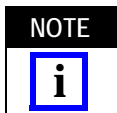

Figure 1
Crimping Heads 1-45216-0 and 1-45219-2 are designed to crimp closed-end splices onto solid or stranded copper wire size 22-10 AWG using Battery Powered Double Action Hand Tool Kit 1213804-[ ]. Refer to Figure 1 for tool components and Figure 2 for Closed-End Splice product.
1. Remove quick pins from the adapter assembly. Refer to Figure 1.